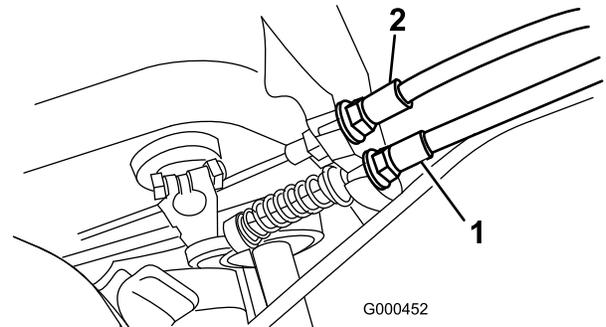

Figure 35
2. To increase cable tension, loosen front cable jam nut and tighten back cable jam nut (Figure 35) until a force of 11–14 lb. (5-6.3 kg) is required to engage brake. Force to be measured at lever knob. Do not over adjust, or brake band may drag.